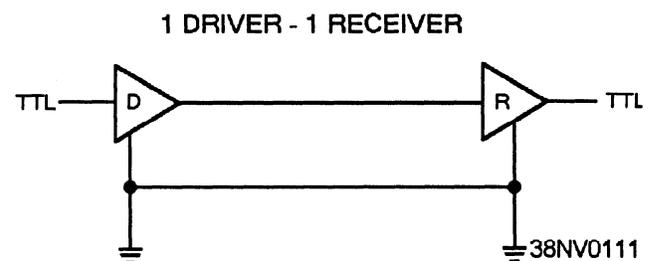

Figure 4-36.—Example of a single-ended line driver and receiver.
- Single-ended line drivers and receivers—Single-ended line drivers and receivers (fig. 4-36) are used for short distances. They have a single input and output at both the transmitting and receiving end. They are usually wire cables, possibly with an outer shield connected to ground. They are used for local transmission to external equipments (including computers) and for remote communications with modems.